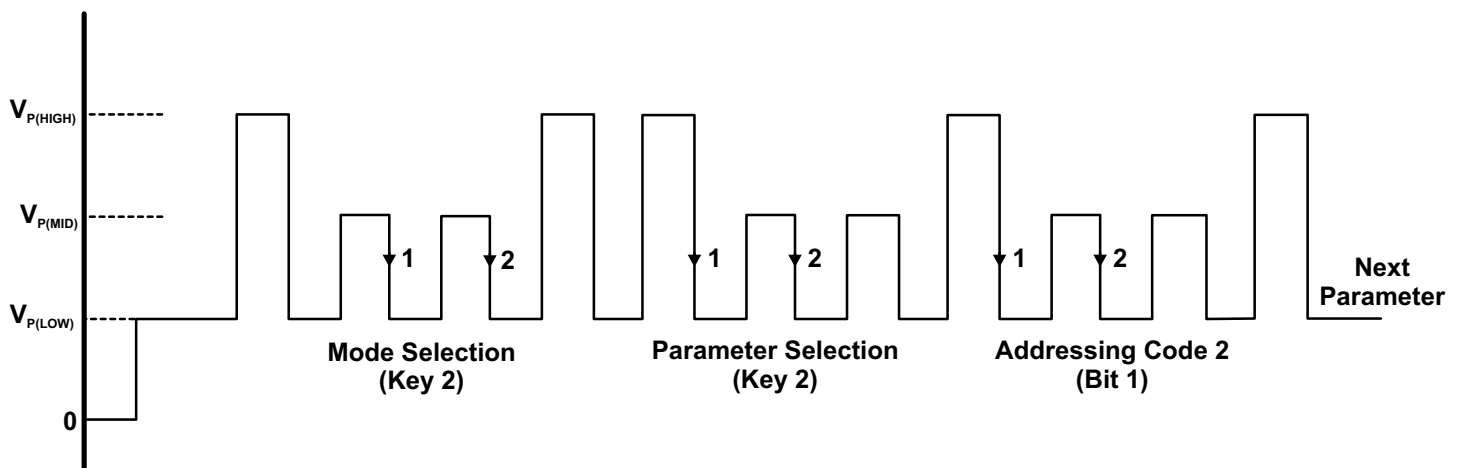

Figure 11: Example of Try Mode Programming Pulses Applied to the VOUT Pin.
After powering the  $V_{CC}$  supply, select mode key 1, the desired parameter register, and address its bit field. When addressing the bit field, each  $V_{PM}$  pulse increments the value of the parameter register up to the maximum possible code (see Programming Logic section). The addressed parameter value will be stored in the device even after the programming drive voltage is removed from the VOUT pin, allowing its value to be measured. To test an additional programmable parameter in conjunction with the original, enter an additional  $V_{PH}$  pulse on the VOUT pin to re-enter the parameter selection field. Select a different parameter register, and address its bit field without any supply interruptions. Both parameter values will be stored and can be measured after removing the programming drive voltage. Multiple programming combinations can be tested to achieve optimal application accuracy. See Figure 11 for an example of the Try Mode pulse train.